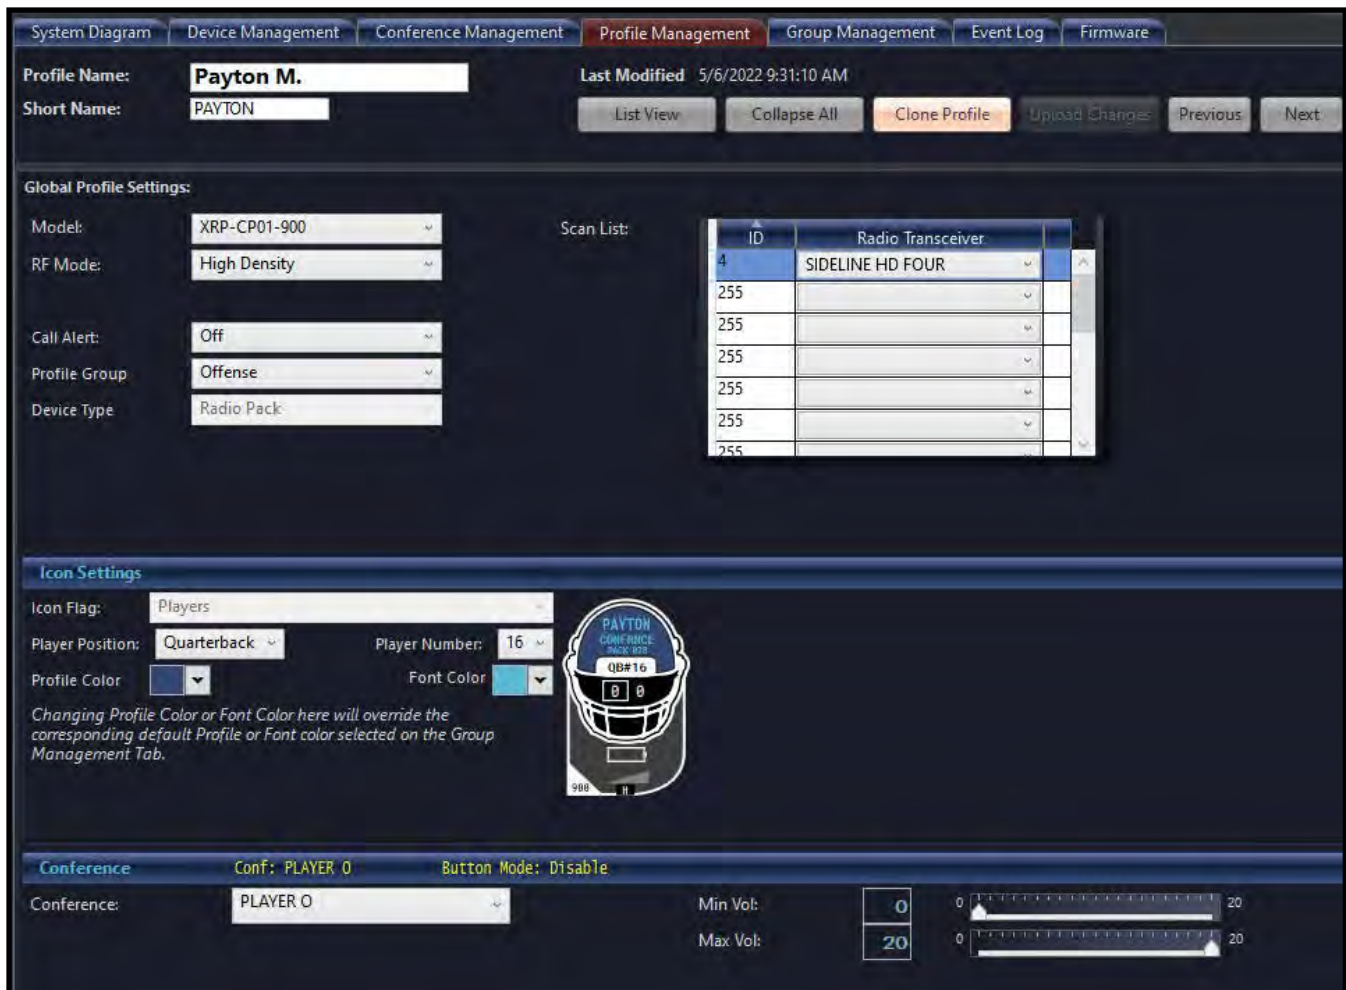

Figure 115: CoachComm X-System Player Profile Example
3. Customize the Player Position and Number in the Icon Settings. See Figure 115 for an example of an CoachComm X-System Player Profile.